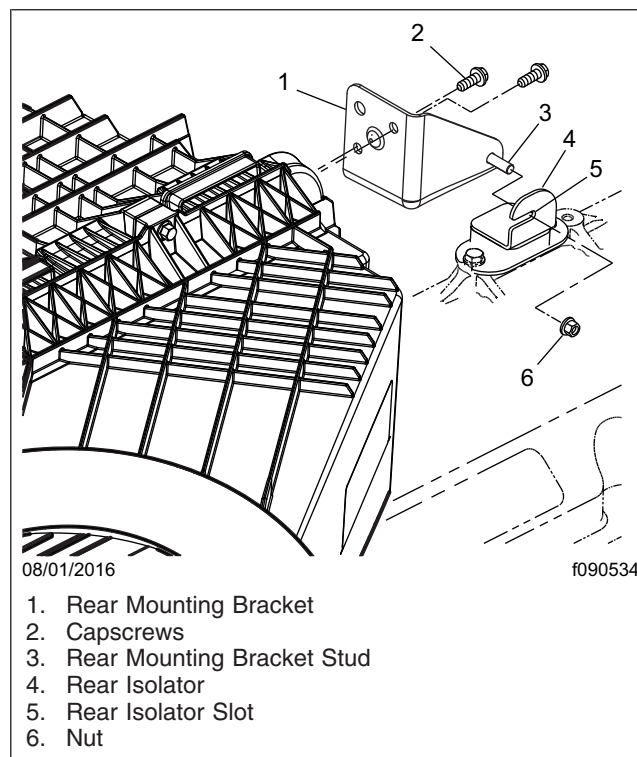

Fig. 1, Air Cleaner Housing Rear Mounting
3. Remove the rear mounting bracket stud nut. See Fig. 1.